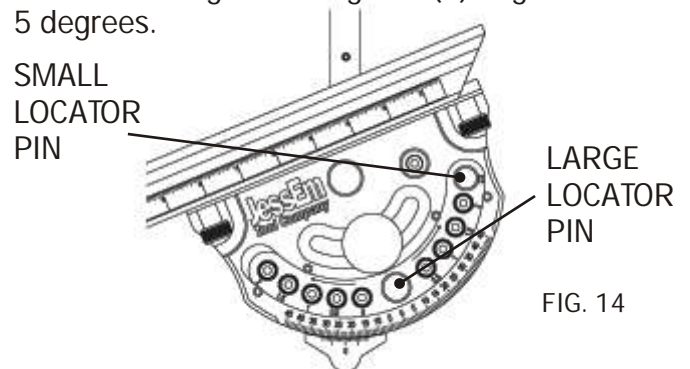

FIG. 14
14. There is only one 2.5 degree pin location. It is the hole on the far right side of the gauge. Placing the small locator pin in the 2.5 degree position and then using the large locator pin to give you positive stops between every five degrees in either the left or right direction. A setting for 22.5 degrees is shown in Fig. 14.